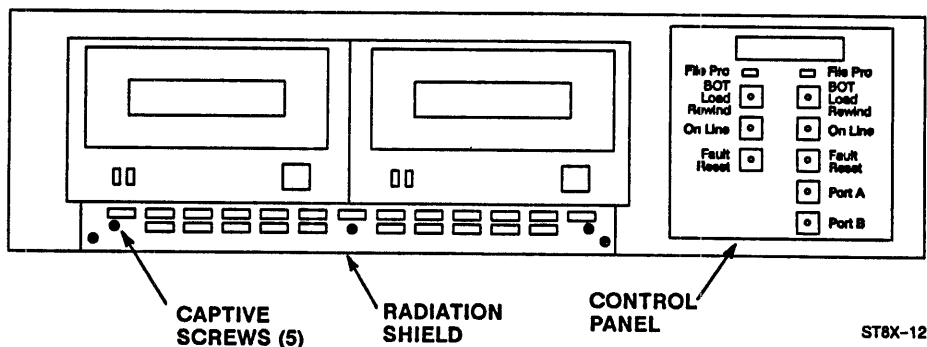

Figure 4-5. Front of Subsystem with Bezel Removed
4. Refer to Figure 4-5, and loosen the five captive screws on the radiation shield at the bottom of the tape drive(s).